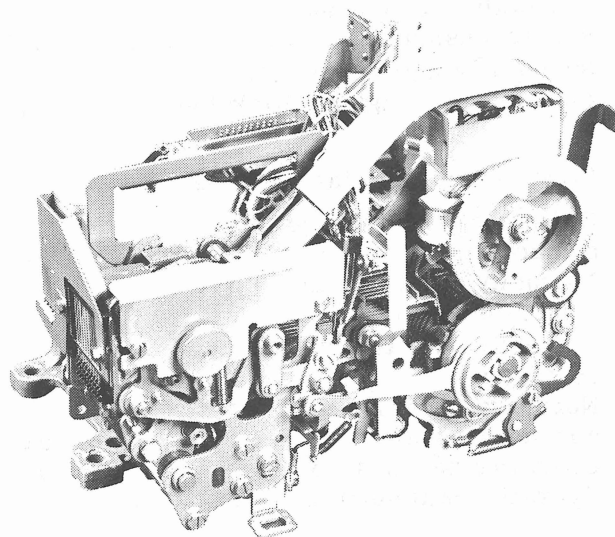

Figure 1 - 37 Nontyping Reperforator
1.01 This section provides adjustments for the late design 37 nontyping reperforator (Figure 1).